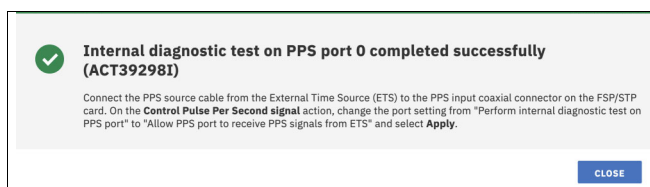

Figure 4-65 Internal diagnostic test successful
- d. Disconnect cables and run a PPS port test in the Control Pulse Per Second (PPS) Signal wizard (see Figure 4-65 on page 103). This confirms that the port is working.
7. When the Internal diagnostic test is performed successfully, the message shown in Figure 4-65 is displayed.